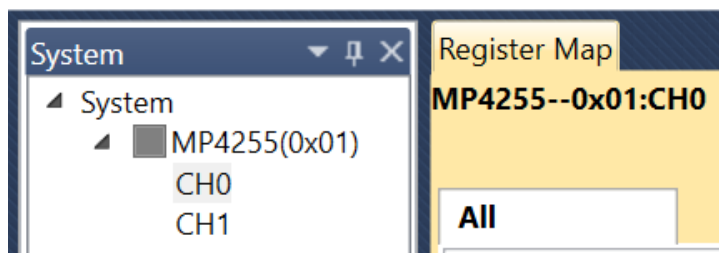

Figure 1: Setting the Controls for V_{OUT1} and V_{OUT2}
6. Click the button with the search icon to obtain the address, then right-click “MP4255(0x01)” to input the I²C slave address (see Figure 1).
7. Double-click CH0 or CH1 for the pages that control V_{OUT1} and V_{OUT2} (see Figure 1). V_{OUT1} and V_{OUT2} are controlled separately via the I²C GUI. ⁽⁴⁾ CH0 controls V_{OUT1} , and CH1 controls V_{OUT2} .